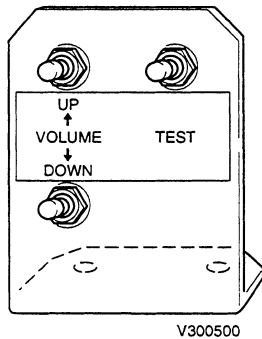

Figure 9: Test Bracket
22. An optional Test/Volume bracket (see Figure 9) is included in this kit. Your cabinet may already contain this bracket. If you decide to install, the bracket should be mounted inside the coin door and on top of the cash box for easy access.